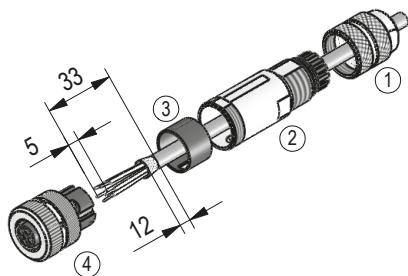

Fig. 13: Straight matting connector M12 T coded
- Accessory SIKO art. no. "89115" M12 T coded (socket 4 pole operating voltage) (Fig. 13).
#### Mounting (Fig. 13)